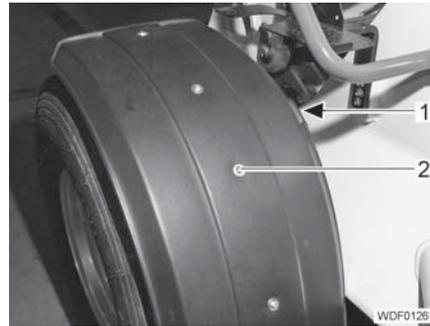

Fig. 268 Fender
- Unscrew the 4 screws (Fig. 268,2) and remove the fender.
- Position a new fender in place so that the recess (Fig. 268,1) is exactly above the holder.
- Tighten the 4 screws (Fig. 268,2).